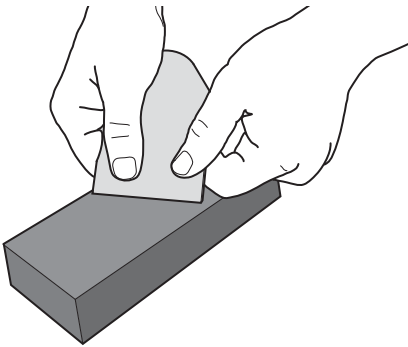
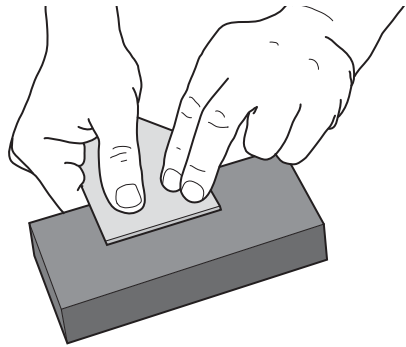

Figure 3: Honing.
Figure 4: Lapping.
Step 2 — Honing: Start with an 800x or 1000x stone to remove the marks from filing. Either an oil stone or water stone is suitable. Hold the blade as shown in **Figure 3** with the bevel flat against the stone. Stroke it back and forth, covering the whole stone. Check the bevel often to evaluate your progress. Continue until all file marks are gone. Using the same technique, transfer to a 4000x water stone or hard Arkansas oil stone to finish honing. As shown in **Figure 4**, lap the face of the blade near the cutting edge to achieve the same finish as on the bevel. A sharp edge can only be achieved by creating two intersecting surfaces honed to the same degree. The Veritas Power Sharpener or a bench-top belt sander with 320x (40μ) followed by 1200x (9μ) abrasive will provide the same results a bit faster.